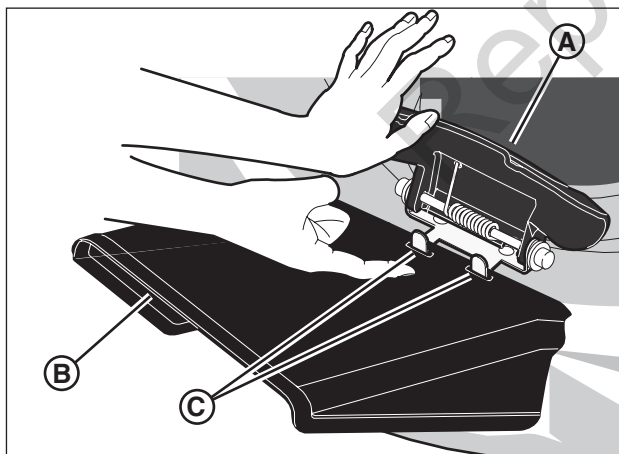

Figure 11: Installing the discharge deflector
1. Raise the mulching cover (**A**, **Figure 11**).